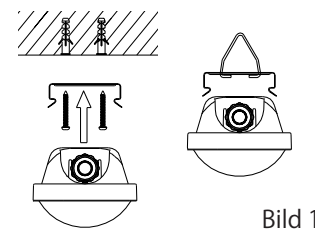

Bild 1
**fig. 1:** Mark drill points, drill the holes, insert the dowel and fasten the clamps with the screws. Use suitable material for wooden walls or lightweight walls. Suspensions can be mounted directly to the clamps.